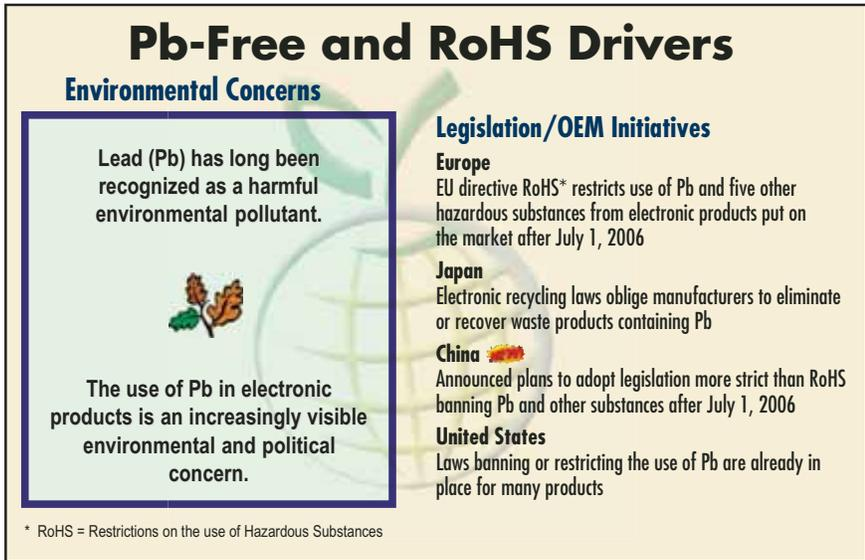

Figure 1 – Environmental concerns drive global legislation.
To develop products that can be shipped globally, you must comply with global requirements and deadlines for the removal of Pb and other hazardous substances from electronic products. As shown in Figure 1, the most eminent requirement is the European Union (EU) directive for the restriction of the use of certain hazardous substances (RoHS). This